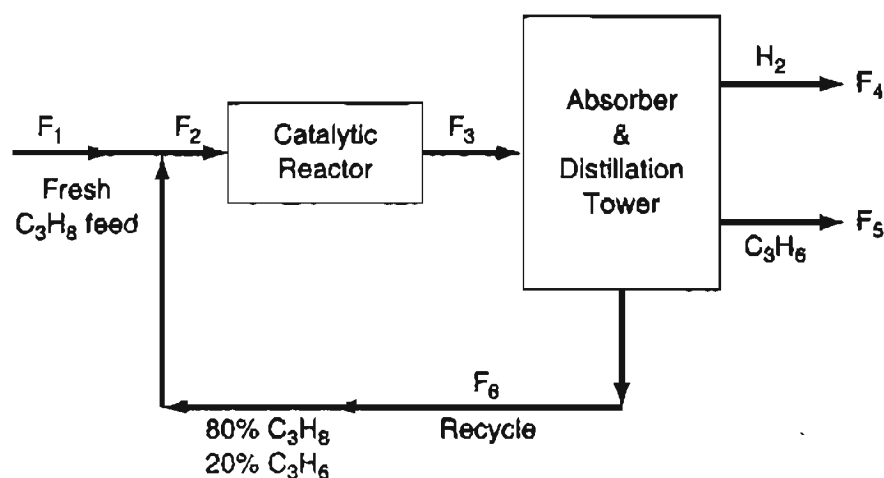

Figure P12.21
- ✓**12.21 The process shown in Figure P12.21 is the dehydrogenation of propane (C₃H₈) to propylene (C₃H₆) according to the reaction